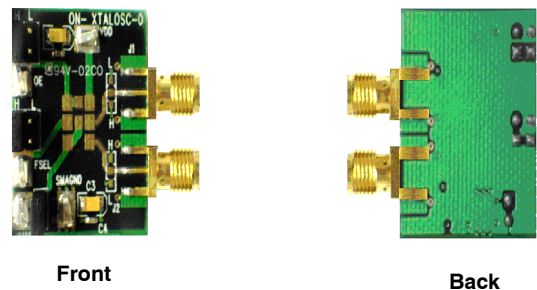

Figure 1. Evaluation Board Images (Front and Back)
8. Hole diameter tolerance is ± 0.002 ", maximum layer to layer misregistration shall be 0.004", measurement method must comply with MIL-P-55110D, Figure 1.